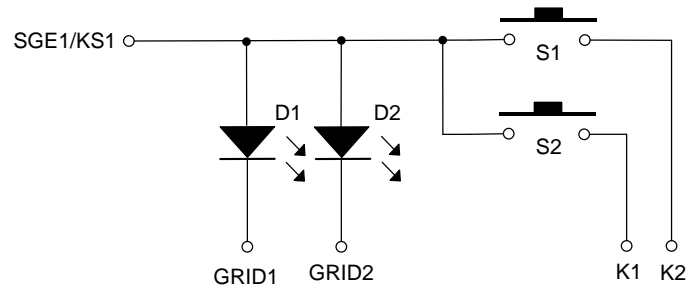

Figure 10.
1. On hardware, set the keys that should be pressed simultaneously to different K lines, as shown in Figure 10.